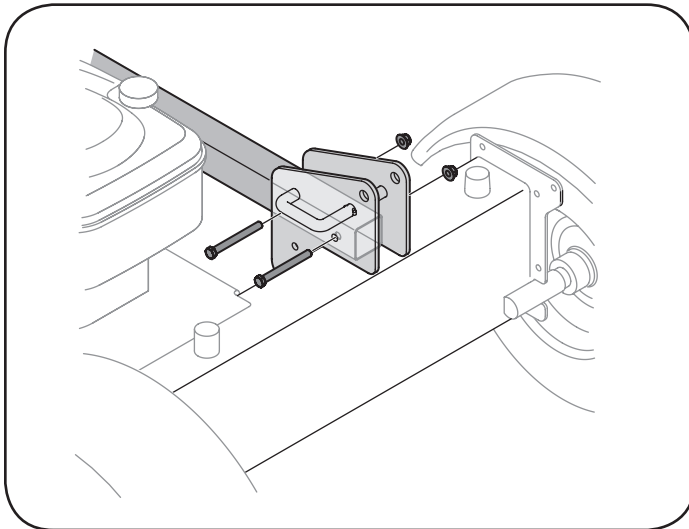

Figure 3-2
1. With the log splitter still standing upright, remove the two hex bolts and hex nuts from the tank bracket. See Figure 3-2.
2. Align the holes in the tongue with the holes in the tank bracket and secure with the hardware just removed. See Figure 3-2.